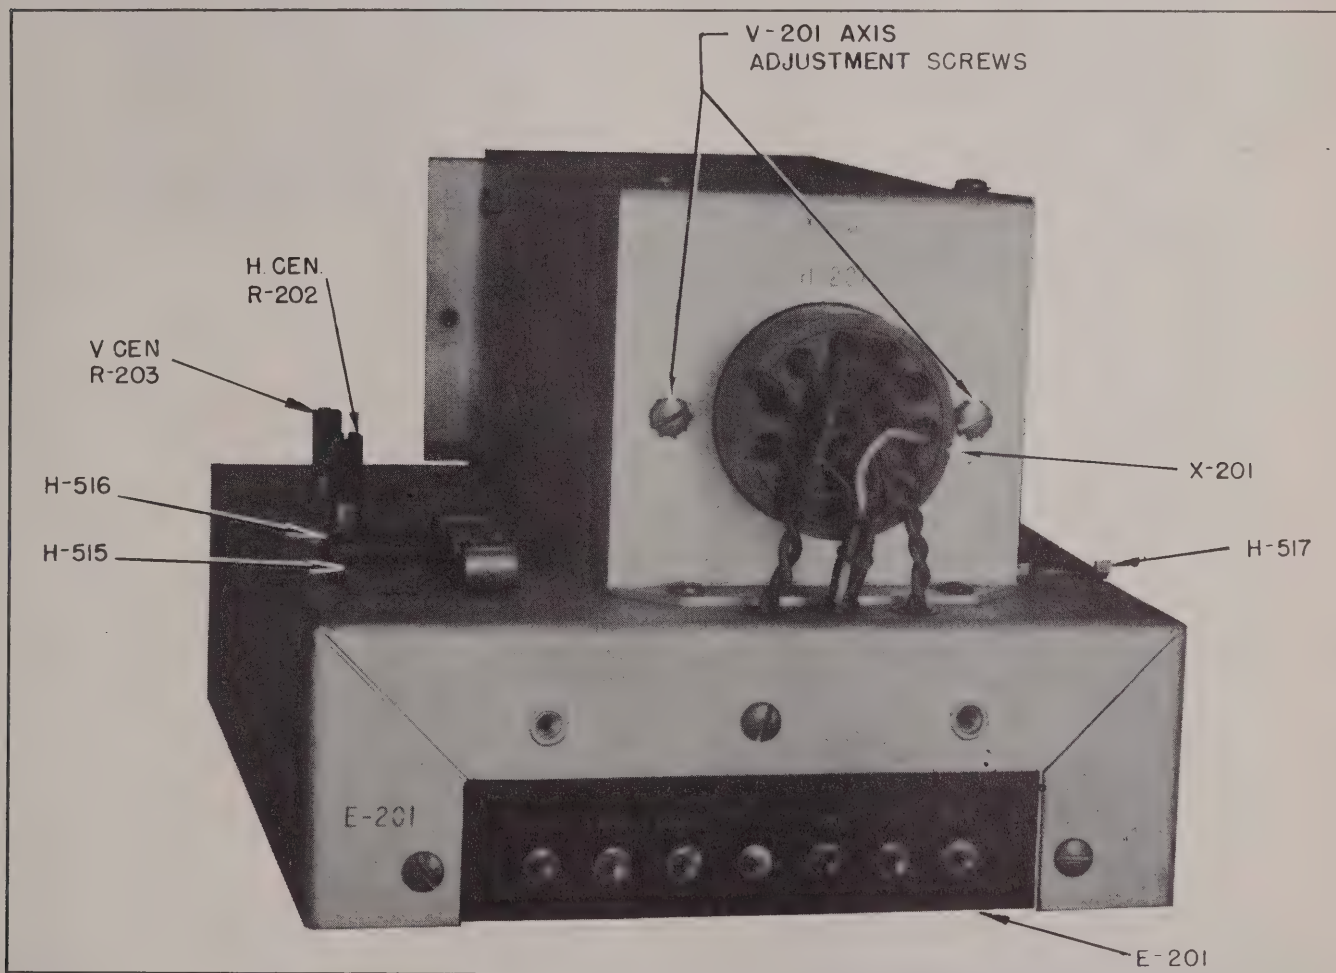

Figure 7-2. Cathode Ray Indicator Unit, Rear View
(1) **HORIZONTAL AND VERTICAL CENTERING CONTROLS.** (See figure 7-2.)